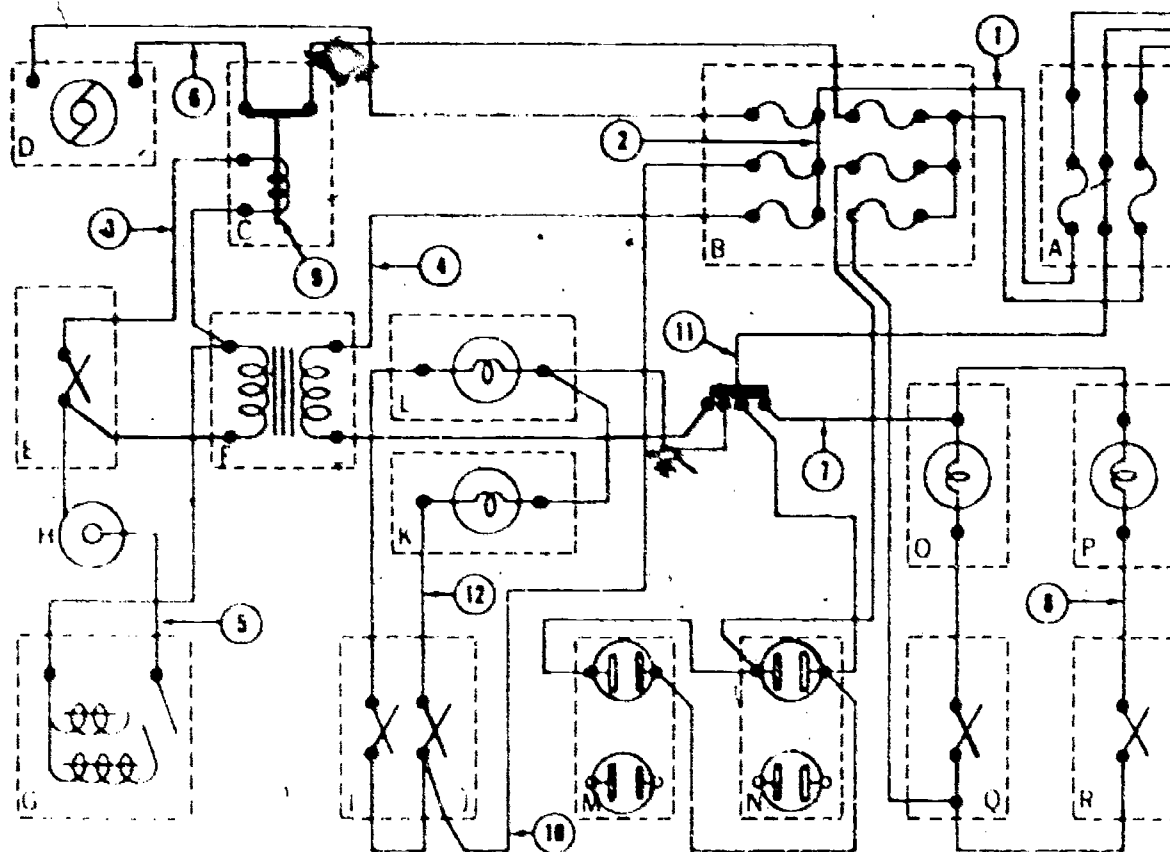

Figure 26. 208-V, 60-Cycle, Single-Phase Circuit
1. The wires on the diagram in figure 26 have been numbered 1 through 12. By each numbered wire in the spaces below, list the unit or units by letter, that would be inoperative if that specific wire were open. (Study the diagram carefully.)